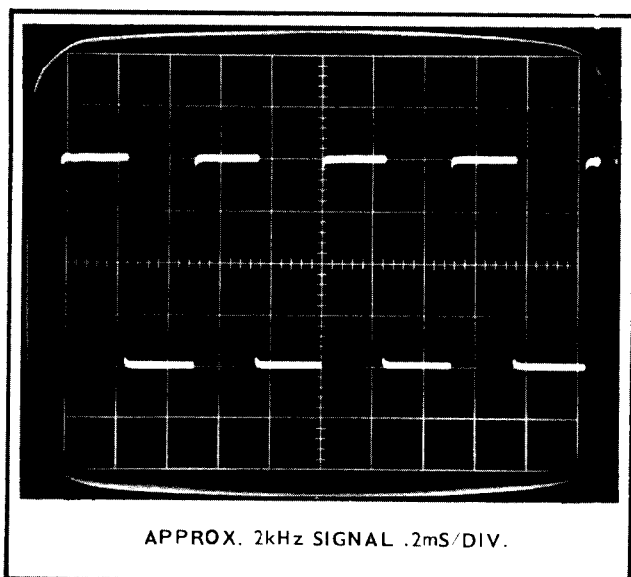

Fig. 6-17. Normal square-wave display at 1, 2, or 5 mV/DIV when attenuators are correctly compensated at 10, 20, and 50 mV/DIV.
f. Change the MANUAL VOLTS/DIV switch to 1 mV and position the display to the crt center. Increase the signal amplitude to display 4 divisions. The display should be similar to Fig. 6-17. The 5% square-wave leading edge rolloff is due to limited high frequency response, and not to the attenuator.